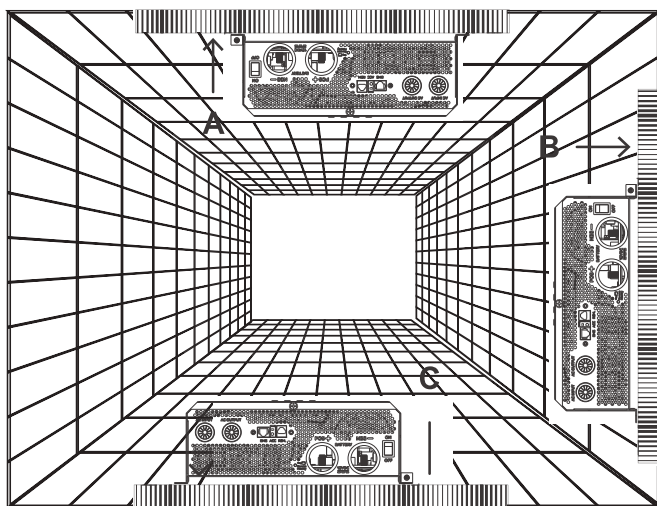

Figure 6 Approved mounting orientations
2. Select an appropriate mounting location and orientation (see Figure 6). To meet regulatory requirements, for use in on-land applications, the RICH SOLAR NOVA must be mounted in one of the following orientations: